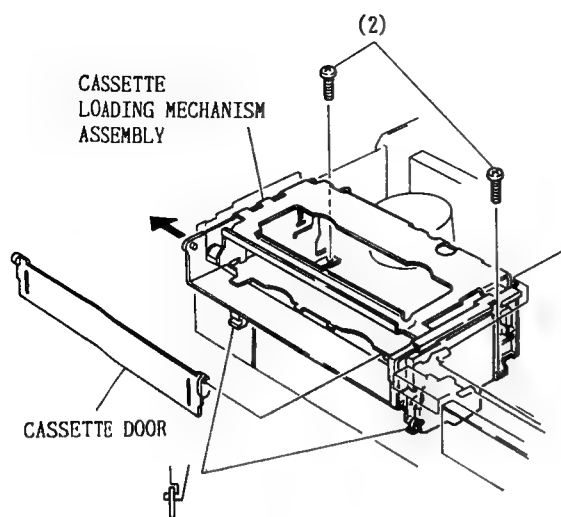

Fig. 5-1 Cassette Loading Mechanism Assembly and Cassette Door
1. Cassette Loading Mechanism Assembly and Cassette Door (Fig. 5-1)